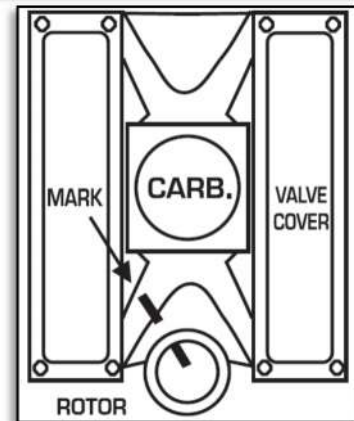

Figure 1. Marking the Rotor Rotation
2. With the cap off, crank the engine until the rotor is aimed at a fixed point on the engine or firewall. Note this position by making a mark (Figure 1).